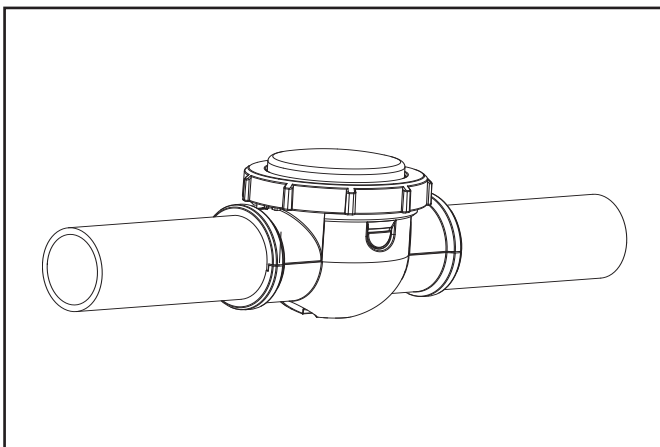

Figure 28. Winterizing Cap Installed
6. Attach the winterizing cap (see Figure 28)